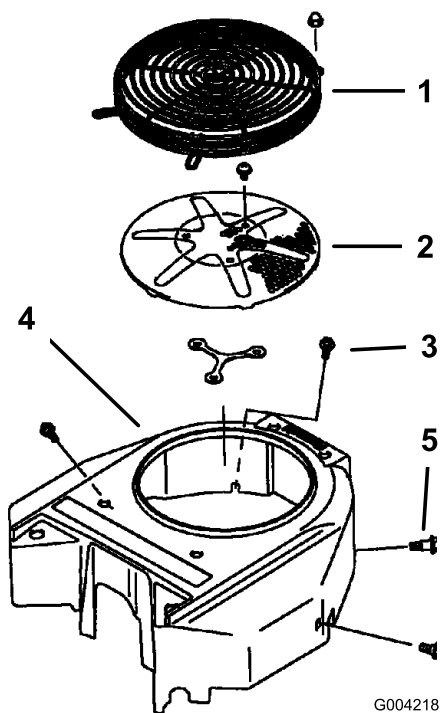

Figure 74
Before each use remove any buildup of grass, dirt or other debris from the engine screen. This will help ensure adequate cooling and correct engine speed and will reduce the possibility of overheating and mechanical damage to the engine (Figure 74).
3. Remove the air intake screen, recoil starter and fan housing (Figure 74).
5. Install air intake screen, recoil starter and fan housing (Figure 74).